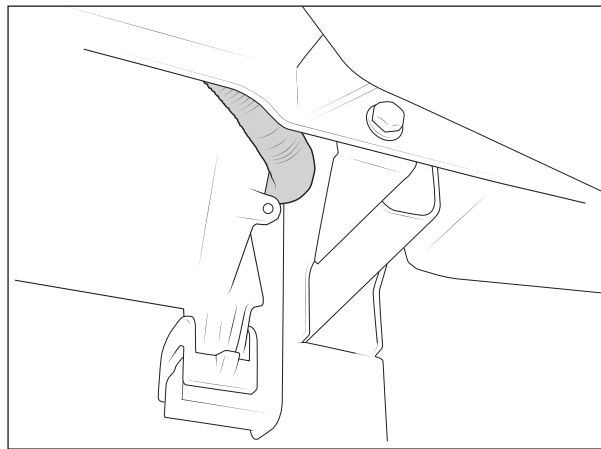

Figure 16
3. Route winch wiring as shown (fig. 16).